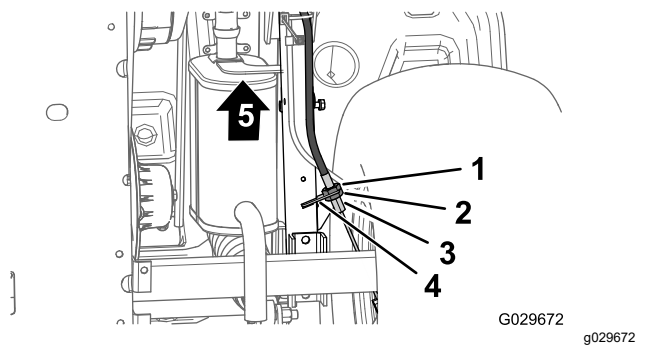

Figure 53
3. At the bottom of the machine, loosen the rear jam nut for the threaded adjuster of the parking-brake cable 4 turns (Figure 53).
4. Tighten the forward jam nut (Figure 53).
- A. Loosen the forward jam nut (Figure 53) for the threaded adjuster of the parking-brake cable 1 turn.
- B. Tighten the rear jam nut (Figure 53).
- A. Loosen the rear jam nut (Figure 53) for the threaded adjuster of the parking-brake cable 1 turn.
- B. Tighten the forward jam nut (Figure 53).